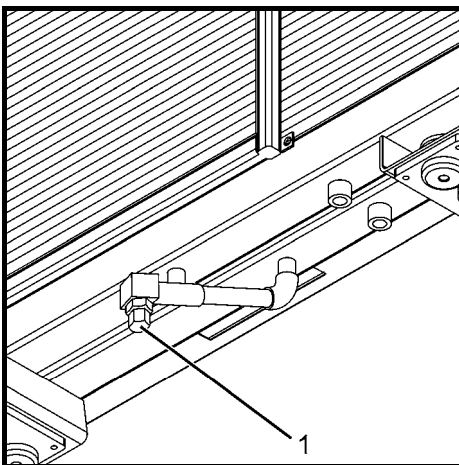

Fig. 9
The drain plug is located under the radiator (Fig. 9, pos. 1).